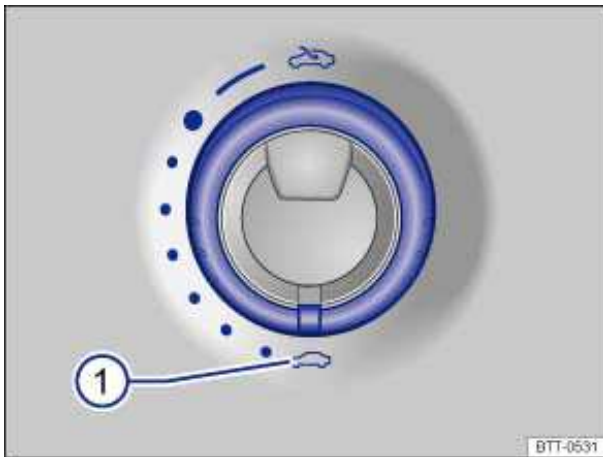

Fig. 47 In the headliner: Sunroof rotary switch.
- The switch must be rotated to the “Closed” position ⇒ fig. 47 \(1\).